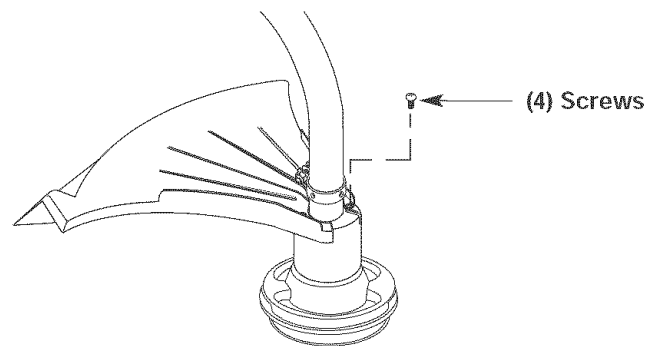

Fig. 4
3. Install the screws with a Phillips screwdriver (Fig. 4).